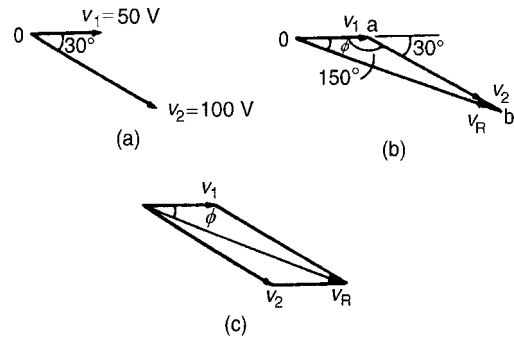

Figure 14.11
Phasors are usually drawn at the instant when time  $t = 0$ . Thus  $v_1$  is drawn horizontally 50 units long and  $v_2$  is drawn 100 units long lagging  $v_1$  by  $\pi/6$  rads, i.e.  $30^\circ$ . This is shown in Fig. 14.11(a) where 0 is the point of rotation of the phasors.
- (i) Draw  $v_1$  horizontal 50 units long, i.e.  $oa$  of Fig. 14.11(b)
- (ii) Join  $v_2$  to the end of  $v_1$  at the appropriate angle, i.e.  $ab$  of Fig. 14.11(b)
Alternatively, when two phasors are being added the resultant is always the diagonal of the parallelogram, as shown in Fig. 14.11(c).
A more accurate solution is obtained by calculation, using the cosine and sine rules. Using the cosine rule on triangle  $Oab$  of Fig. 14.11(b) gives: